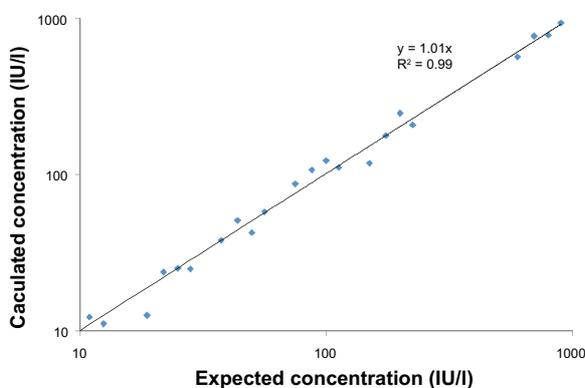

Figure 8. β -hCG sample analysis correlation results
Figure 8 shows the correlation results for the β -hCG sample analysis. The replicate study results established precision (CV) ranging from 11.0-12.7 % and recovery values ranging from 92-101 % at the various concentrations. This shows that, by carefully balancing the number of repeat sample loads and incubation times for each step, each ELISA can be optimized for both sensitivity and maximum throughput.